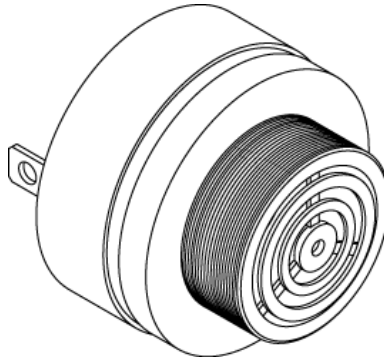

Figure 4 Buzzer
- 3) The buzzer (i.e., horn) provides an audible alert when the ELT is active. See Figure 4.